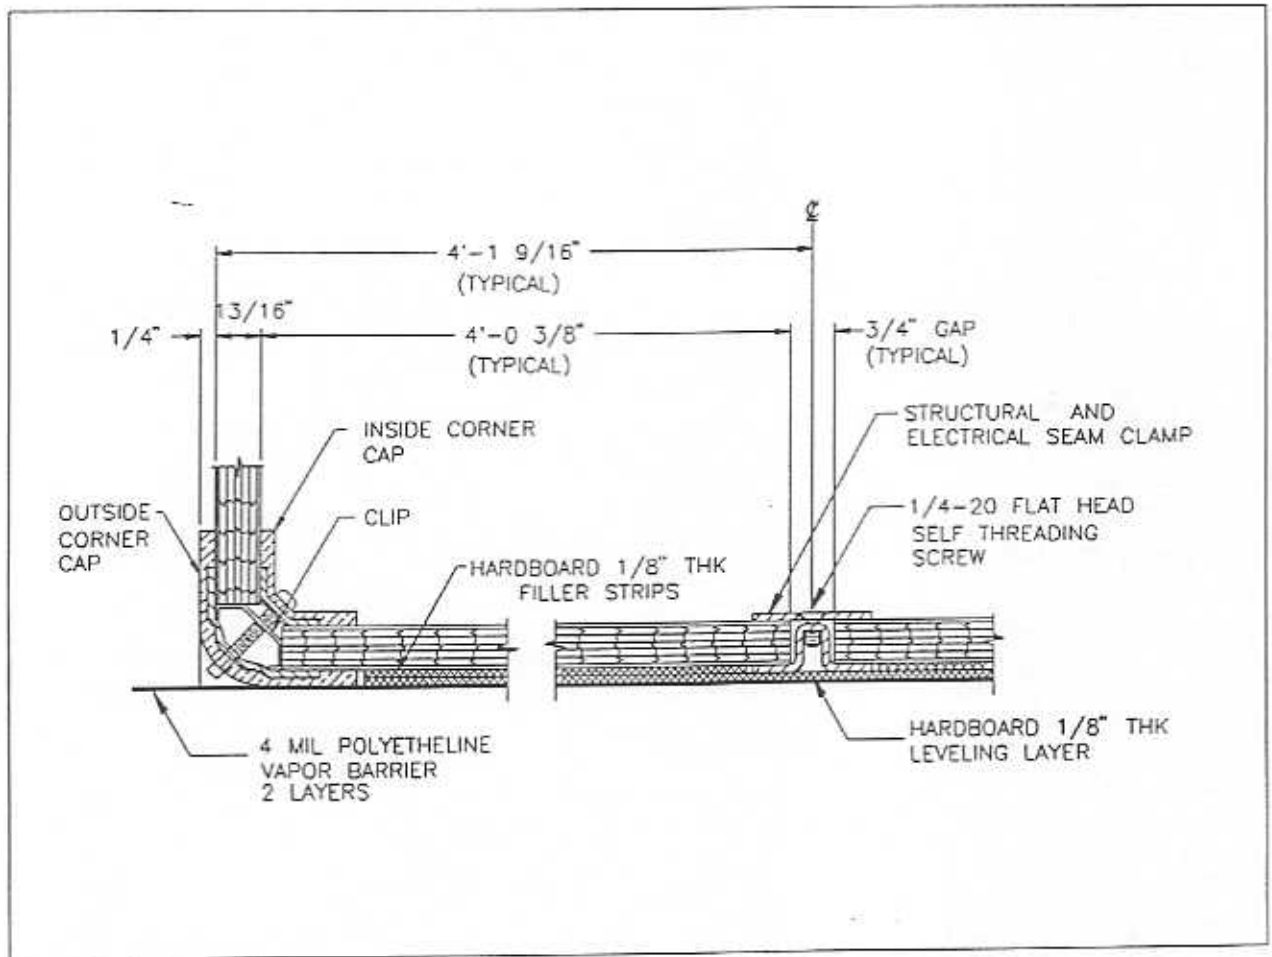

FIGURE 2: SECTION @ FLOOR/WALL CORNER
You must maintain the $3/4"$ spacing between the panels and $1-3/16"$ from outside face of shield to edge of floor, ceiling and wall panel. See Figure 2.
Before starting the installation, sweep clean the floor on which the enclosure is to be erected. Then lay down the 6 Mil polyethylene sheet which is furnished. Then lay down over the polyethylene the 1/8" thick hardboard leveling layer which is furnished. See Figure 2.
Standing at the far end of the floor, lay down the hat channels, hardboard filler strips, floor panels, and the perimeter cove assemblies. The center line of the first butt joint will be 4'-1-9/16" to the outside face of the enclosure. See Figure 2.
The inside cove is next bolted loosely to the outside cove to hold the two parts in temporary alignment. Install one corner wall panel in cove section of the wall; panel should be in line with each edge of the floor panel. Tighten three (3) screws at each side wall panel; make sure the chair clip is seated; then tighten the rest of screws. Set outside section of corner cap in place. Install second corner wall panel with the same procedure as the first, holding the vertical section loosely in the corner. Then tighten screws in the vertical cove, making certain the wall panels are against the chair clips. Install the inside section of the corner cap. See Figure 2. Tighten all bolts at vertical cove to 90 inch pounds torque. This corner is now complete.